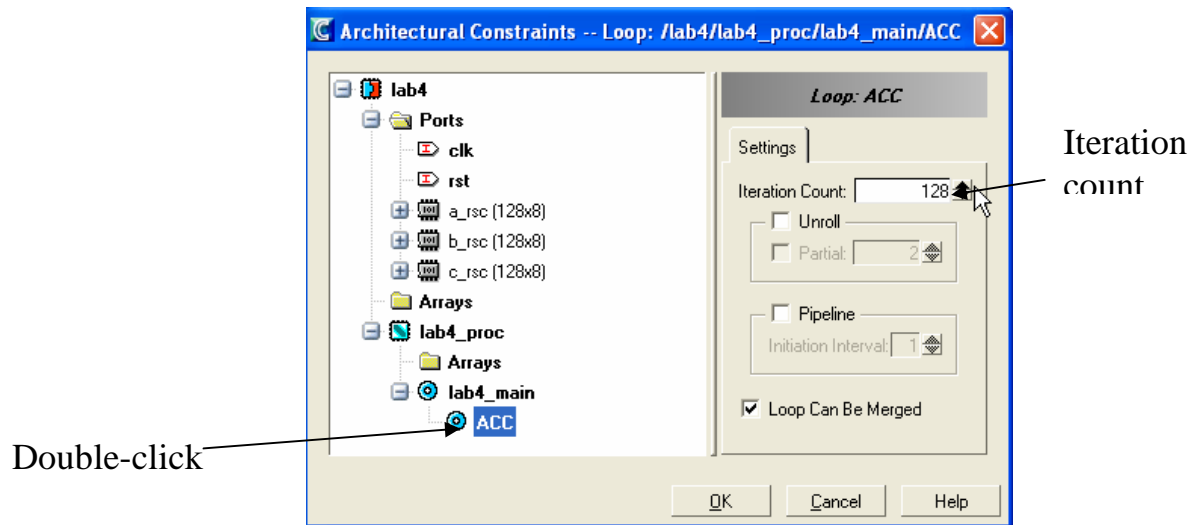

Figure 1 Checking Iteration Count
- ✓ Verify that the number of iterations is reported in the iteration count box (Figure 1).